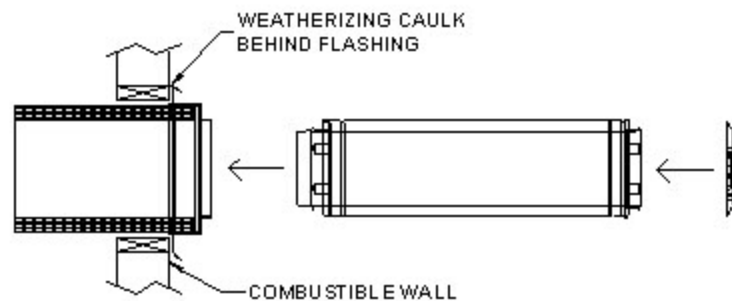

Figure 2
2. Position the Wall Termination Assembly into the enlarged hole from the outside (Figure 2). Secure the assembly using common construction methods. Seal under the screw heads with caulking. Reinstall the decorative sheathing around the Wall Termination Assembly. The assembly may be painted to match the exterior decor.
Position the Wall Termination Assembly into the enlarged hole from the outside (Figure 2). Secure the assembly using common construction methods. Seal under the screw heads with caulking. The assembly may be painted to match the exterior decor.